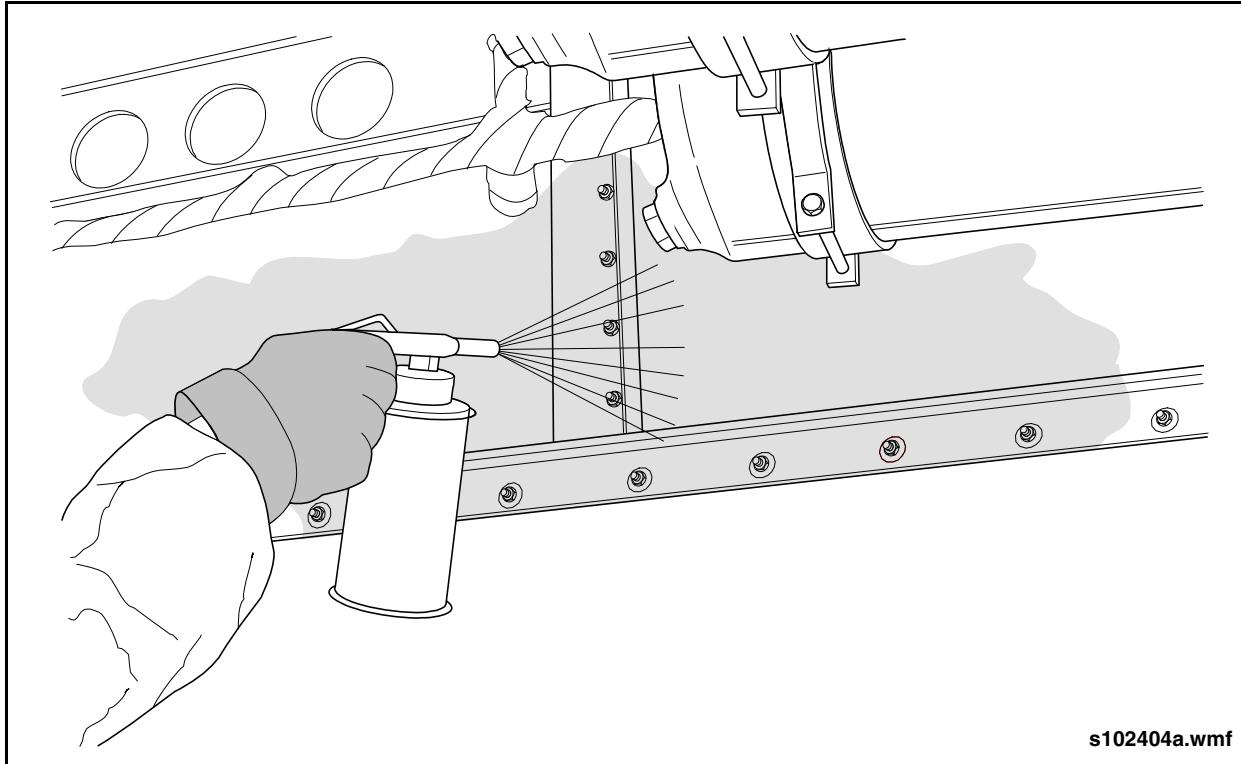

Fig. 11-4: Corashield Application
3. Spray repair areas with a wet film thickness of 20 mils while maintaining a spray distance of 12 to 15" (30 to 38 cm). Dry film thickness to be 10 mils minimum. See "Fig. 11-4: Corashield Application" on page 14.